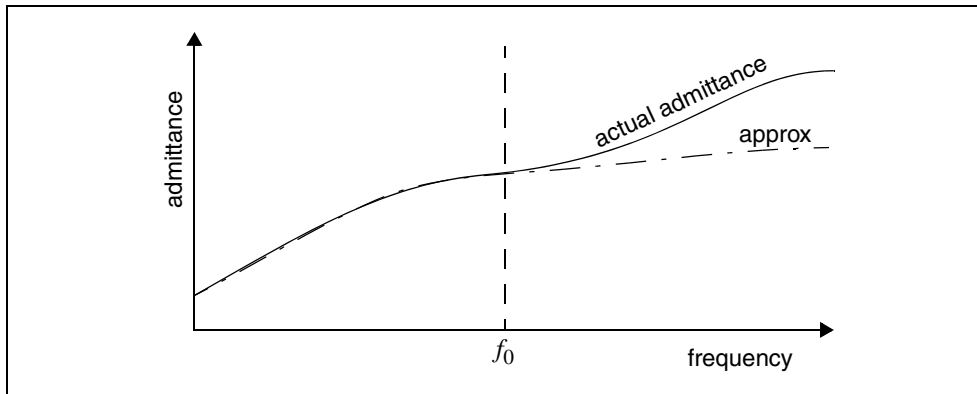

Figure 104 Multiport Admittance vs. Frequency
- The amount of reduction depends on the f_0 upper frequency, the threshold frequency where `SIM_LA` preserves the admittance (Figure 104).